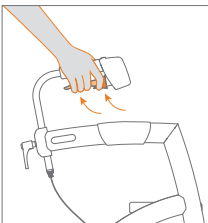

Figure 21: Apply the parking brake.
- c. Do you want to use the parking brake to make sure the rollator does not roll away? First squeeze the hand brakes and simultaneously squeeze the parking brake levers. Then release the brakes. Your walker is now in the parking position (**Figure 21**).